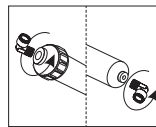

Fig. 4
- 4) Unscrew INLET and OUTLET straight connectors out of old filter cartridge (Fig. 4).